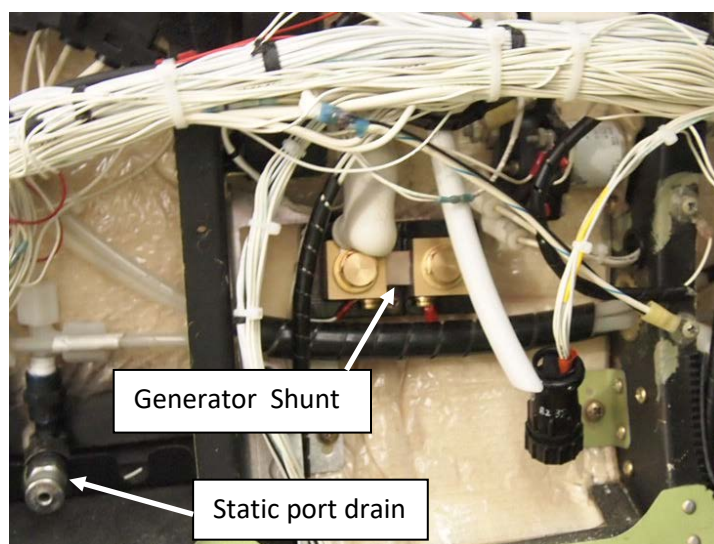

Figure 1: Location of Generator Shunt
1. Remove the single 2 gauge wire or two 4 gauge wires routed from the generator circuit breakers to the generator shunt. The shunt is located on the left side of the fuselage at immediately forward of the static port drain. See Figure 1.